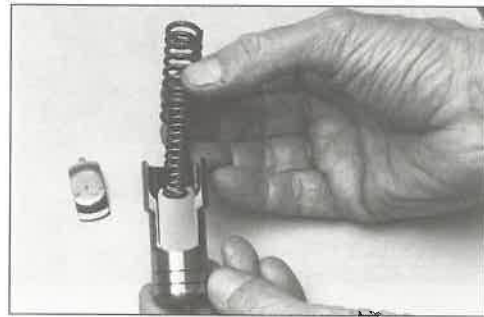

FIG. 41
6. Remove all components, ensuring there is no binding or burrs (see Fig. 41). Clean in an approved cleaning solvent. Inspect parts and replace as necessary.